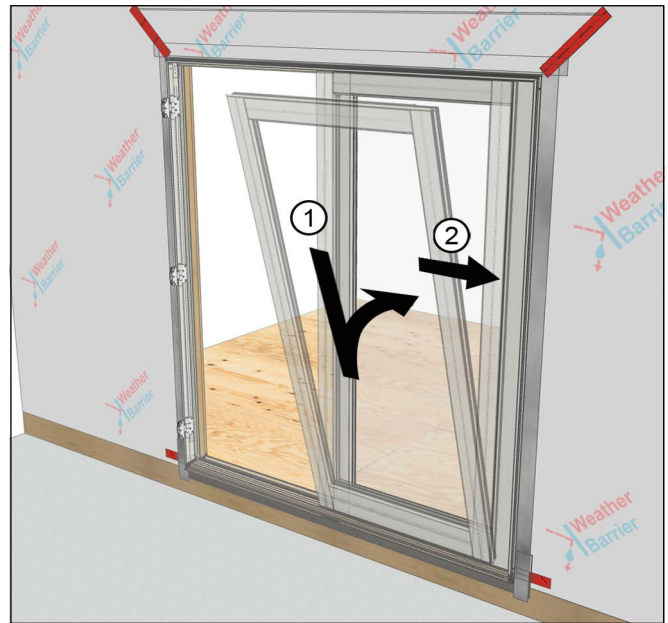

Figure 21
2. Stationary panel is installed first by tipping panel in over the sill retainer and then sliding over and engaging the panel bracket into the sill retainer and jamb retainers. See Figure 21.